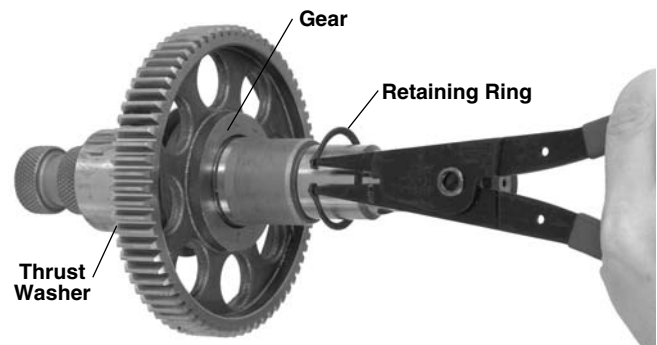

Figure 19 – Removing Retaining Ring
5. Remove retaining ring from driveshaft and slide gear off. (See Figure 19.)